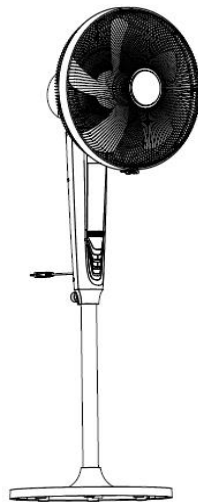

Figure 6
6. Put the fan in the stand position after assembled and plug it in. Use according to the instruction manual (Figure6).